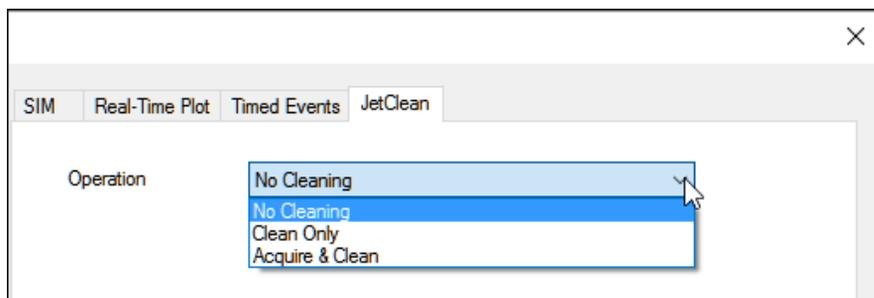

Figure 33 Selecting the JetClean Operation mode
- 2 In the Single Quadrupole MS Method Editor navigation panel, select the **JetClean** tab. (See Figure 33.)